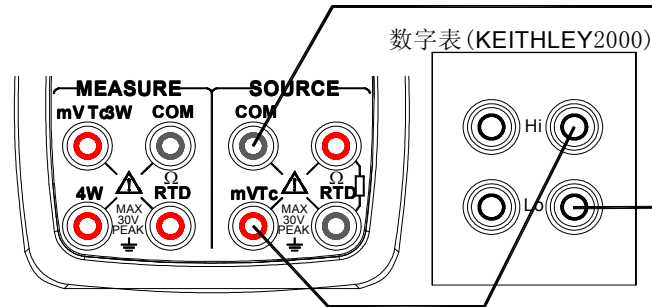

Figure 14 Adjusting voltage source
Step 1: Using the (**mV**) key, select DC voltage function. Connect the lead cables for measurement to the standard digital meter as shown in Figure 14.